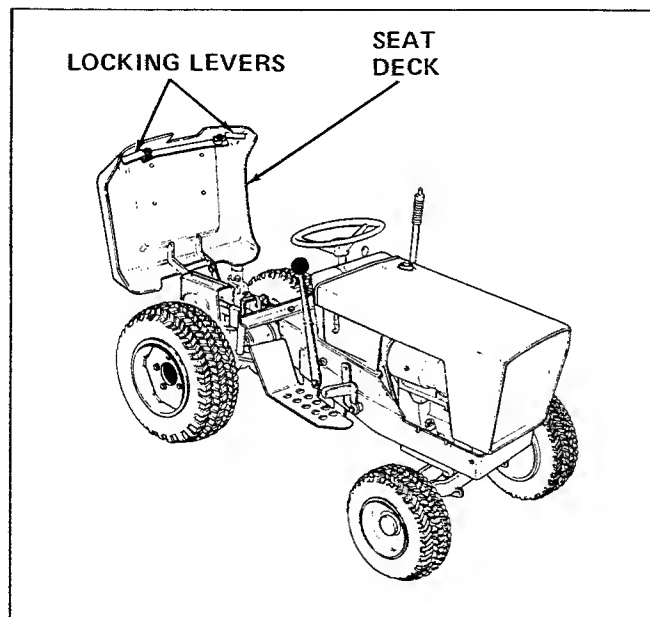

Figure 17. Raising the Seat Deck
The seat deck may be raised to the position shown in figure 17. This will expose many of the transmission and clutch-brake adjustment points. To raise the seat deck, proceed as follows:
1. Reach under the seat deck and locate the locking levers (figure 17).